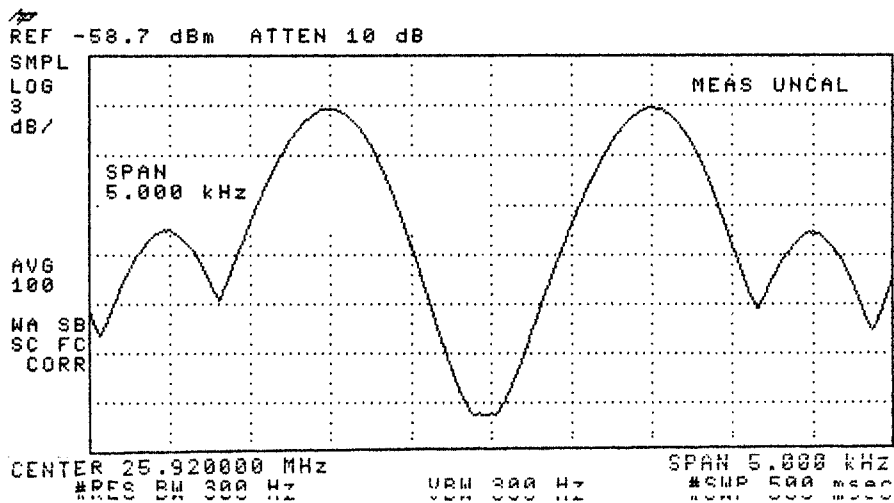

Figure 3-12 Second Bessel Null Example
- 29 Adjust the OmniBER's jitter amplitude (approximately 3.52 UI) until the 2nd Bessel Null is observed on the Spectrum Analyzer i.e 2nd dip in the carrier level (see Figure 3-12).